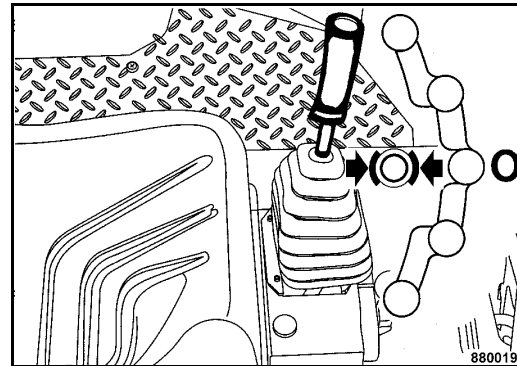

Fig. 68
- Shift the travel lever (Fig. 68) slowly to position 0.